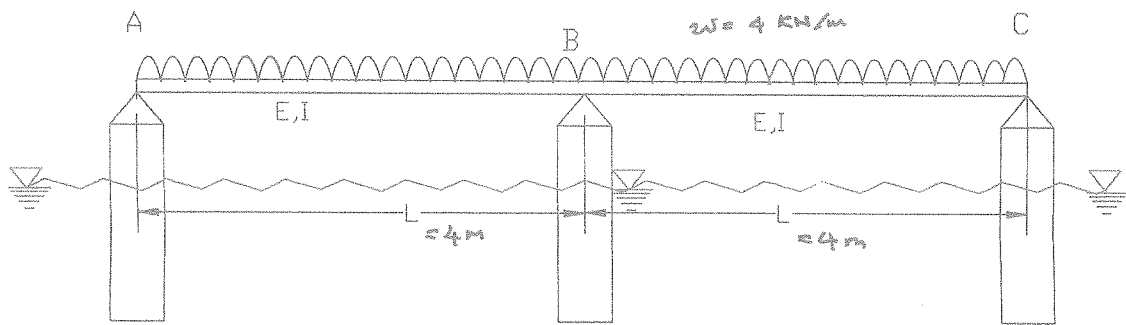

Fig. Q2
- b) A straight elastic beam ABC of uniform cross section with constant flexural rigidity $EI = 4.2 \times 10^5 \text{ kNm}^2$ is used as a floating bridge deck across a waterway. Deck is supported on three cylindrical floats at A, B and C, which are equally spaced (distance " $l=4\text{m}$ ") along the section as shown in Fig Q2. The maximum load expected on the beam deck is considered as a uniformly distributed load of $w = 4 \text{ kN/m}$. It is expected that supports will settle based on the magnitude of the reaction and the buoyancy force (uplift force acting on the floats due to water pressure) causing additional moment on the deck. Ignore the self-weight of the beam and the buoys. Assume that the bridge deck is straight before the application of the imposed load. Buoys used as support were cylinders having 1.4 m diameter.